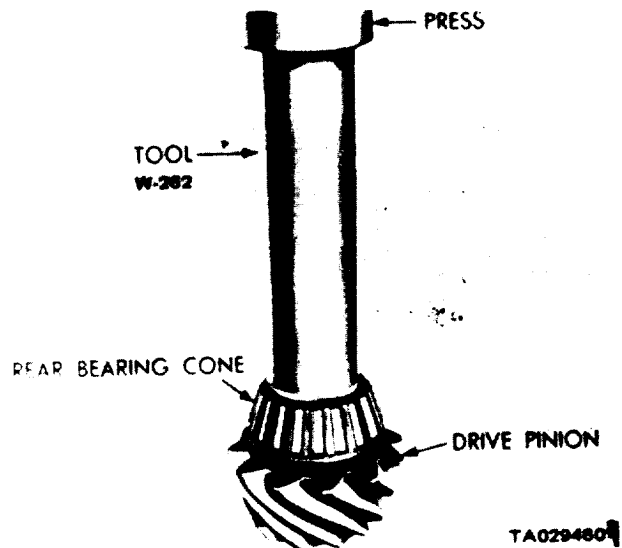

Figure 20-17.1. Installing the Front Pinion Bearing Cone.
(6) If the marking is negative, add the correct amount of shims. If the marking is positive, subtract the correct amount of shims. Shims are available in 0.003, 0.005, and 0.010 inch thicknesses.
(7) Remove the tool and adapters from the axle housing.
(8) Remove the rear pinion bearing cup and install the correct shim pack.
(9) Reinstall the rear bearing cup as described in a, above.
(10) Lubricate the cone, and install it on the pinion shaft using tool W-262 (figure 20-17.1).